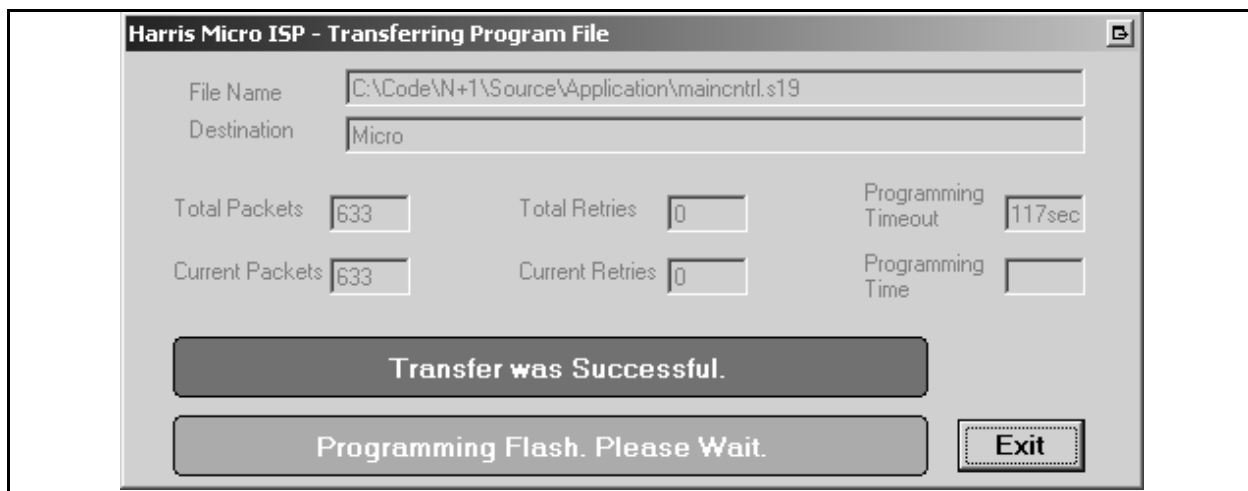

Figure 1-7 Programming Flash
STEP 11 When it has transferred all of the new programming packets it will then take a couple seconds to program the flash chip as shown in Figure 1-7.